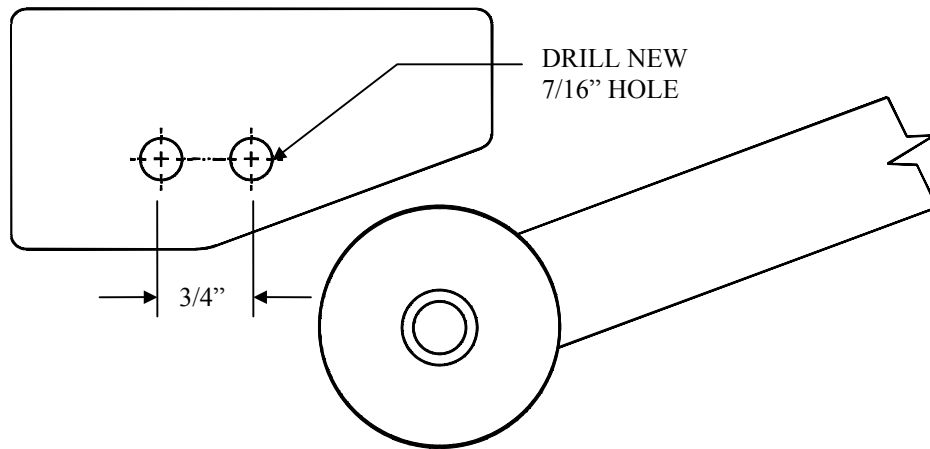

Figure 1.
10. Relocate the new mounting hole for the front track bar on the axle bracket at this time. Scribe a horizontal line through the center of the existing hole. Using a rule, mark the location of the new track rod mounting hole $3/4$ " inboard as shown in **Figure 1**.